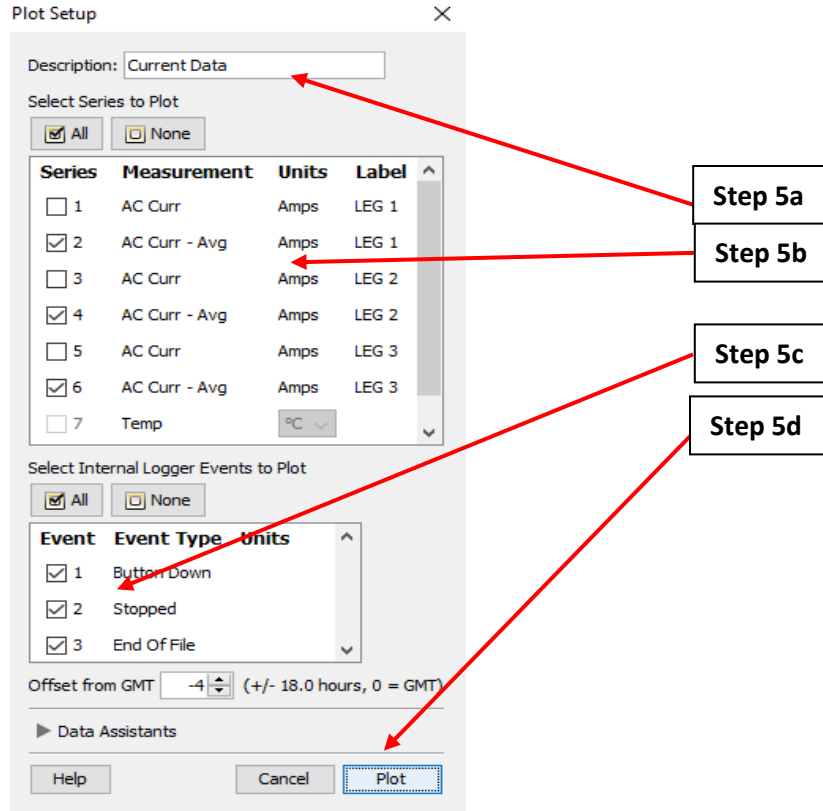

Figure A.8.13: The “Plot Setup” pop-up window with the corresponding steps.
10. The “Plot Setup” window will open (see Figure A.8.13).